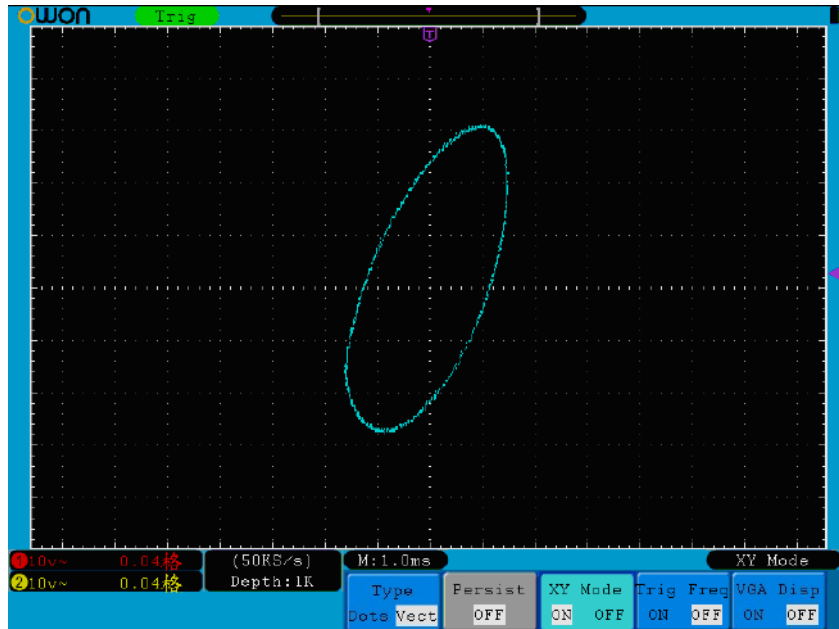

Figure 5-35 XY Display Mode
2. Press the **H3** menu selection button to set XY Mode **ON**. The display format is changed to be XY mode (see Figure 5-35).